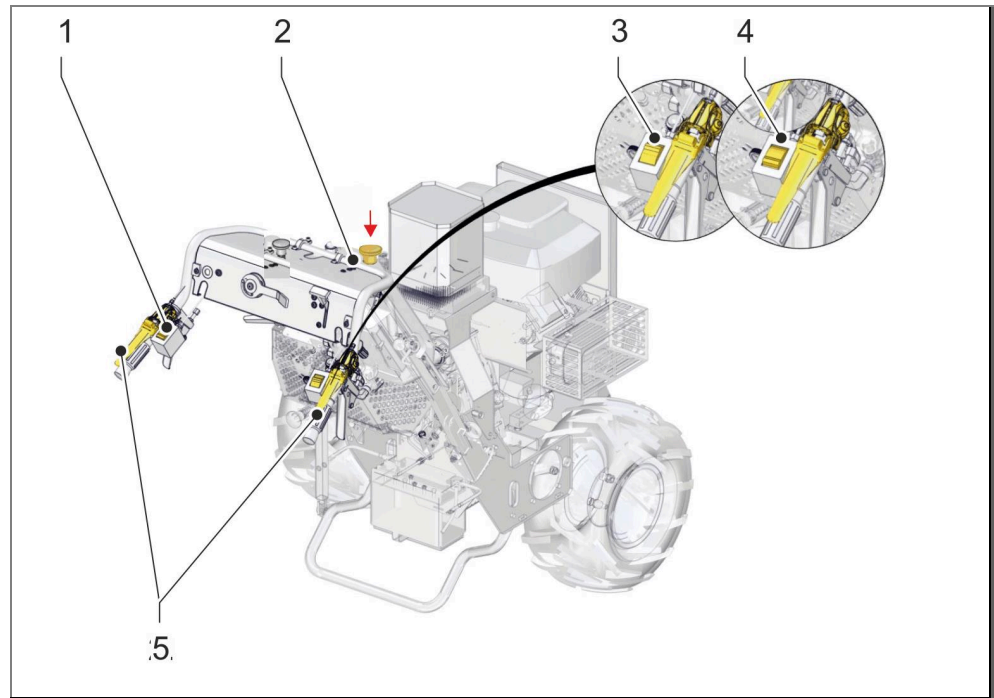

Fig. 23: Active steering – reversing
2. Lock the handrail using the lock (2) (only with handlebar active steering)
3. Set the direction switch (1) to the zero position.
5. Turn the direction switch (1) backwards. Single-axle carrier vehicle rolls slowly in the direction of travel.
- 6th As shown in Fig. 23, the single-axle carrier vehicle is accelerated when reversing by moving the rotary switch backwards (3). The single-axle carrier vehicle is decelerated by moving the rotary switch forwards (4). The deceleration or acceleration takes place in steps between 0 - 6 km/h.